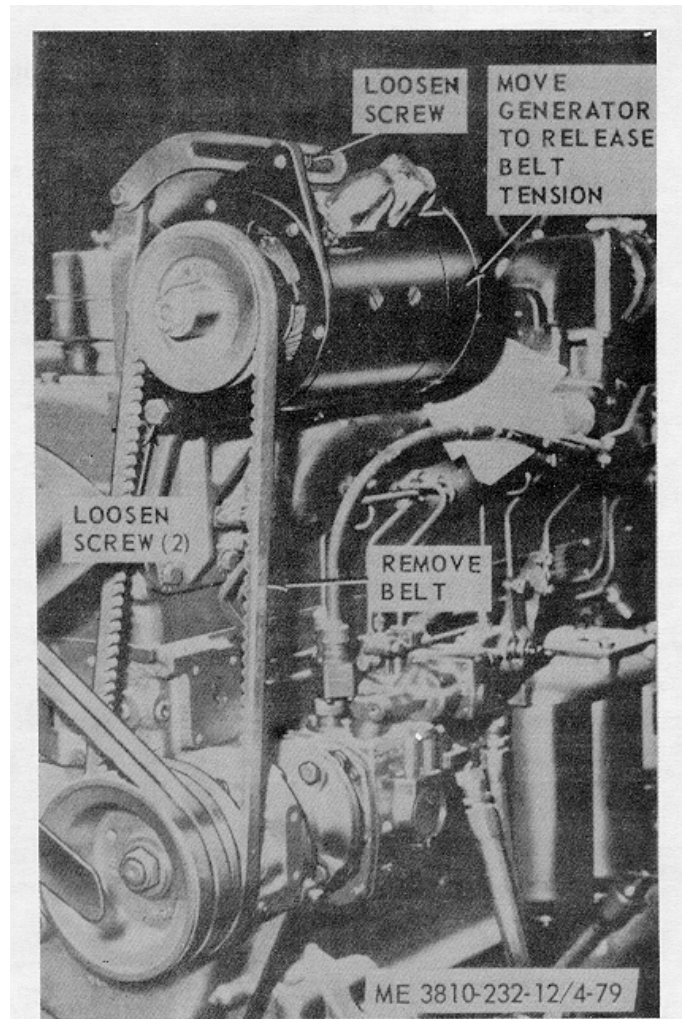

Figure 4-79. Crane engine generator belt, removal and installation
(1) Remove fan belts as instructed in paragraph 4-58.
(2) Remove generator belt as illustrated in figure 4-79.
- (1) Install generator belt as illustrated in figure 4-79.
- (2) Install fan belts as instructed in paragraph 4-58.
- (3) Adjust the crane engine belts as instructed in paragraph 3-17.